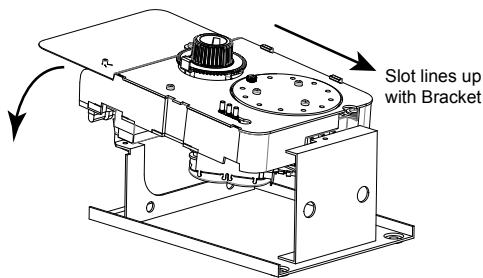

Figure 4. Snap Defrost Timer on bracket.
6. Snap the Defrost Timer on the bracket or if applicable, the bracket in the enclosure. See Figures 4 and 5 on the back.